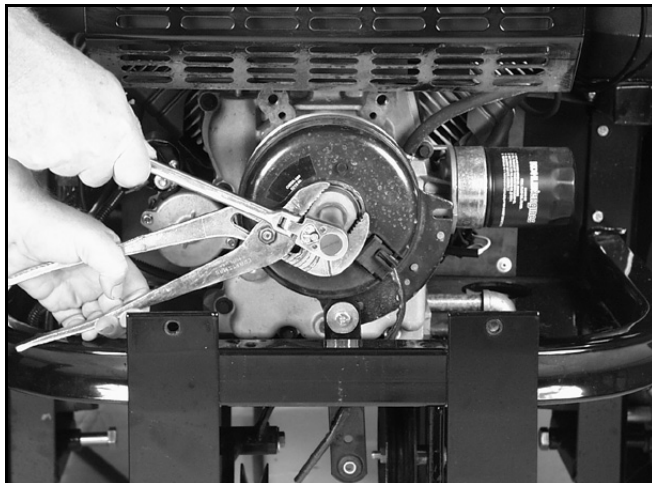

Figure 136
4. Use the flats on the washer below the clutch retaining bolt to hold the crankshaft stationary, remove the clutch retaining bolt (Figure 136).